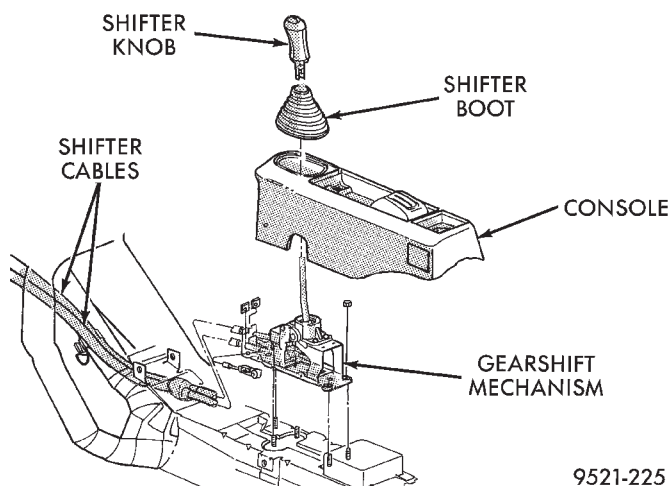

Fig. 14 Gearshift Mechanism
(1) Remove shifter knob and boot. refer to Shifter Knob And Boot Removal procedure in this section.
(2) Remove console assembly. Refer to Console Removal procedure in this section.
(3) Remove gearshift cables. Refer to Gearshift Cable Removal in this section
(4) Remove retaining nuts at the base of the gearshift mechanism (Fig. 14). Remove shifter.